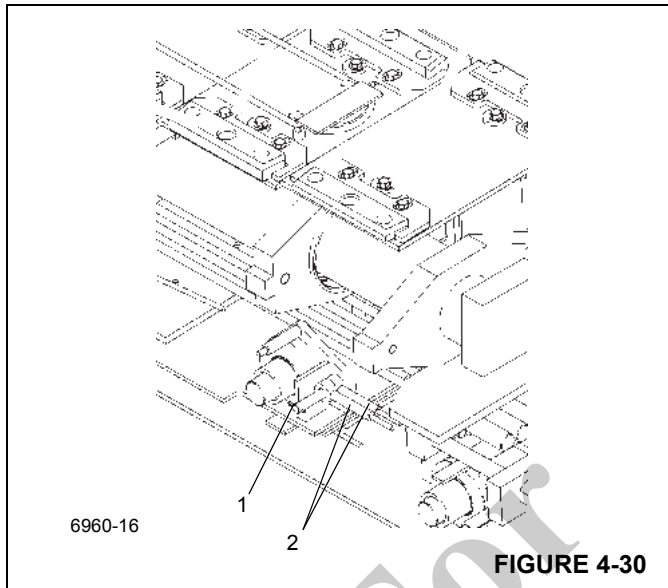

FIGURE 4-30
8. Using pins and cotter pins (1) (Figure 4-30), attach the outer mid retract cables (2) laying in the bottom of the inner mid to the lugs in the rear of the outer mid.